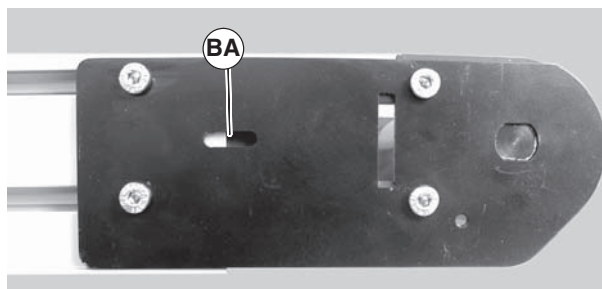

Figure 35
3. Extend head plate assembly until proper tension in the belt is achieved. If proper tensioning can not be obtained before the belt life indicator is all black (Figure 35, item BA) the belt must be replaced.